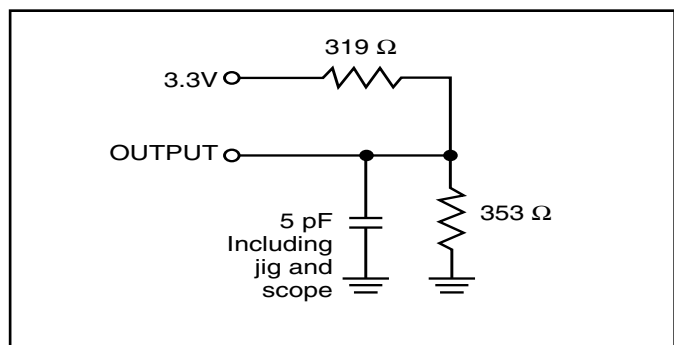

Figure 2.
- Tested with the load in Figure 2. Transition is measured  $\pm 500$  mV from steady-state voltage.
2. Tested with the load in Figure 2. Transition is measured  $\pm 500$  mV from steady-state voltage. Not 100% tested.